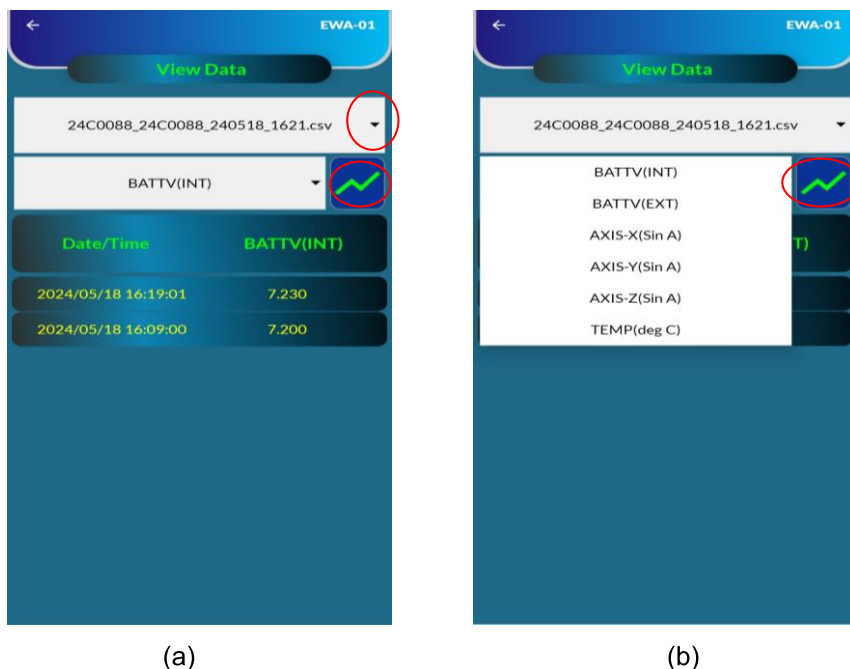

Figure 6-14 View data
- Press the "VIEW DATA" tab from "Download" screen (figure 6-10 (c)). A window as shown in figure 6-14 (a) will appear.
- Graph view of selected parameter is also available. Tap the graph button as shown in figure 6-14 (b). A window as shown in the figure 6-15 appears. To view the graph, select Graph Layout, Data Range, X-axis and Y-axis range and click on "OK" button.